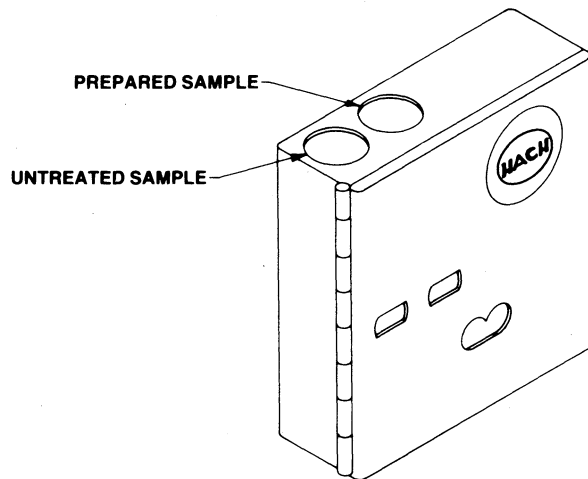

Figure 1.
6. Insert the tube of prepared sample into the right top opening of the color comparator (Prepared Sample Position in Figure 1).
7. Rinse the unoxidized cadmium metal from the color viewing tube used in Step 2. Fill to the mark with the original water sample and place in the left top opening of the comparator (Untreated Sample Position in Figure 1).
8. Hold the comparator up to a light source such as the sky, a window or lamp and view through the openings in front. Rotate the disc to obtain a color match. Read the mg/L nitrate nitrogen (N) through the scale window. To obtain the results as mg/L nitrate (NO_3) multiply the reading on the scale by 4.4.
7. Insert the tube containing the prepared sample into the right top opening of the color comparator (Prepared Sample Position in Figure 1).
8. Rinse the unoxidized cadmium from the color viewing tube used in Step 2. Fill to the mark with the original water sample. Place this tube in the left top opening of the comparator (Untreated Sample Position in Figure 1).
9. Hold the comparator up to a light source such as the sky, a window or lamp and view through the openings in front. Rotate the disc to obtain a color match. Read the mg/L nitrate nitrogen (N) through the scale window. Multiply that reading by 10 to obtain the mg/L nitrate nitrogen (N) present in the sample. To obtain the results as mg/L nitrate (NO_3) multiply the mg/L nitrate nitrogen (N) by 4.4.
3. Insert the tube containing the prepared sample into the right top opening of the comparator (Prepared Sample Position in Figure 1).
4. Fill a second viewing tube to the mark with the original water sample. Insert this tube into the left top opening of the comparator (Untreated Sample Position in Figure 1).
5. Hold the comparator up to a light source such as the sky, a window or lamp and view through the openings in front. Rotate the disc to obtain a color match. Multiply the scale reading by 0.53 to obtain the mg/L nitrite nitrogen (N).
6. Subtract the mg/L nitrite nitrogen (N) from the total mg/L nitrate nitrogen (N) value to obtain the exact mg/L nitrate nitrogen present in the sample.